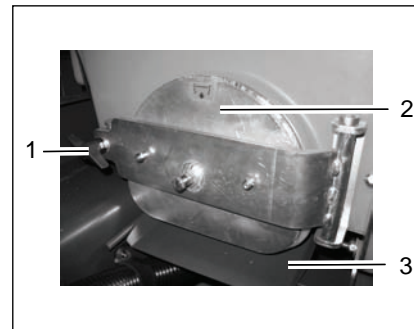

Fig. 32
4. Pull out the run-off plate (Fig. 32/3).
5. Release the flap lock: turn the wing nuts (Fig. 32/1) counterclockwise.
6. Open the cleaning flap (Fig. 32/2).